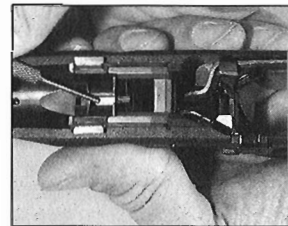

Figure 2
- Install the new slide lock spring in the slot of the frame and use the installation tool to push the smooth end of the spring firmly down into the socket. (Figure 2)